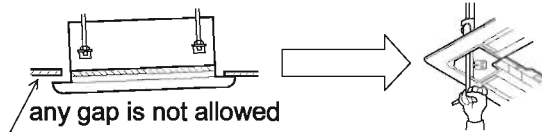

Fig.4
- Turn and adjust the decorated board in the direction of arrow as shown in Fig. 4 until it covers the hole of the ceiling.
If there is still a gap between the decorated board and the ceiling after tightening the screws, please readjust the height of the body of the indoor unit. (Fig. 4)